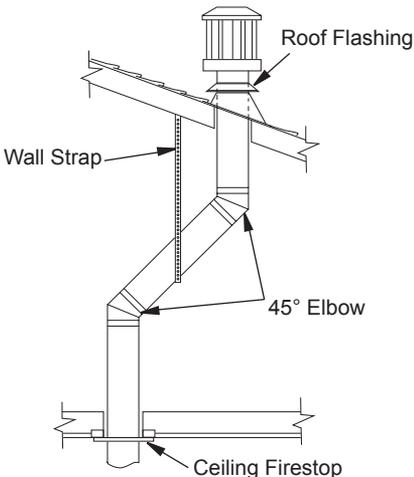

Figure 19 - Offset with Wall Strap and 45° Elbows
1. Determine route your vertical venting will take. If ceiling joists, roof rafters or other framing will obstruct venting system, consider an offset (see Figure 19) to avoid cutting load bearing members.
Note: If an offset is needed to avoid obstructions, you must support vent pipe every 3 feet. Use wall straps for this purpose (see Figure 19). Whenever possible, use 45° elbows instead of 90° elbows. A 45° elbow offers less restriction to the flow of flue gases and intake air.
- Place flashing over pipe section(s) extending through roof. Secure base of flashing to roof and framing with roofing nails. Be sure roofing material overlaps top edge of flashing as shown in Figure 19, page 15. There must be a 1" clearance from vent pipe to combustible materials.